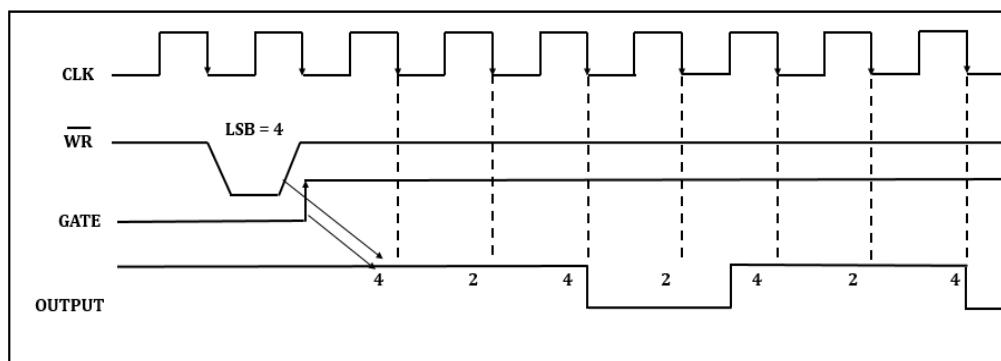

Figure 3.14: Mode 3 Timing Diagram.
- Figure 3.14 shows the Mode 3 Timing Diagram.